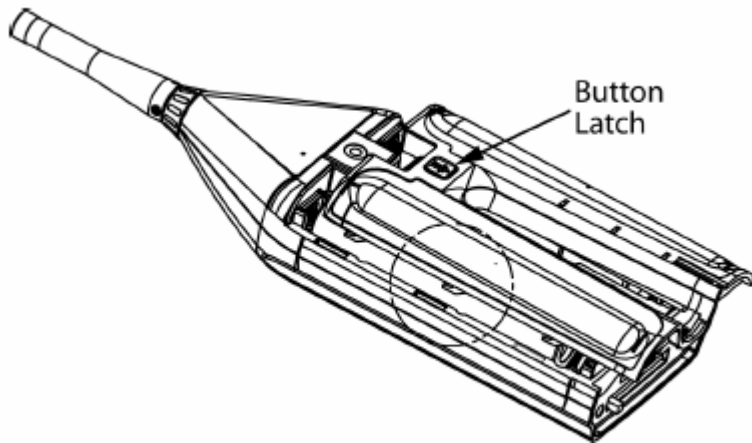

Figure 1 Removing/replacing the back cover
1. Press the Button Latch firmly while sliding the cover toward the base of the instrument. The cover's six edge pins will slide out of the mating slots (one pin and slot pair circled in Figure 1).